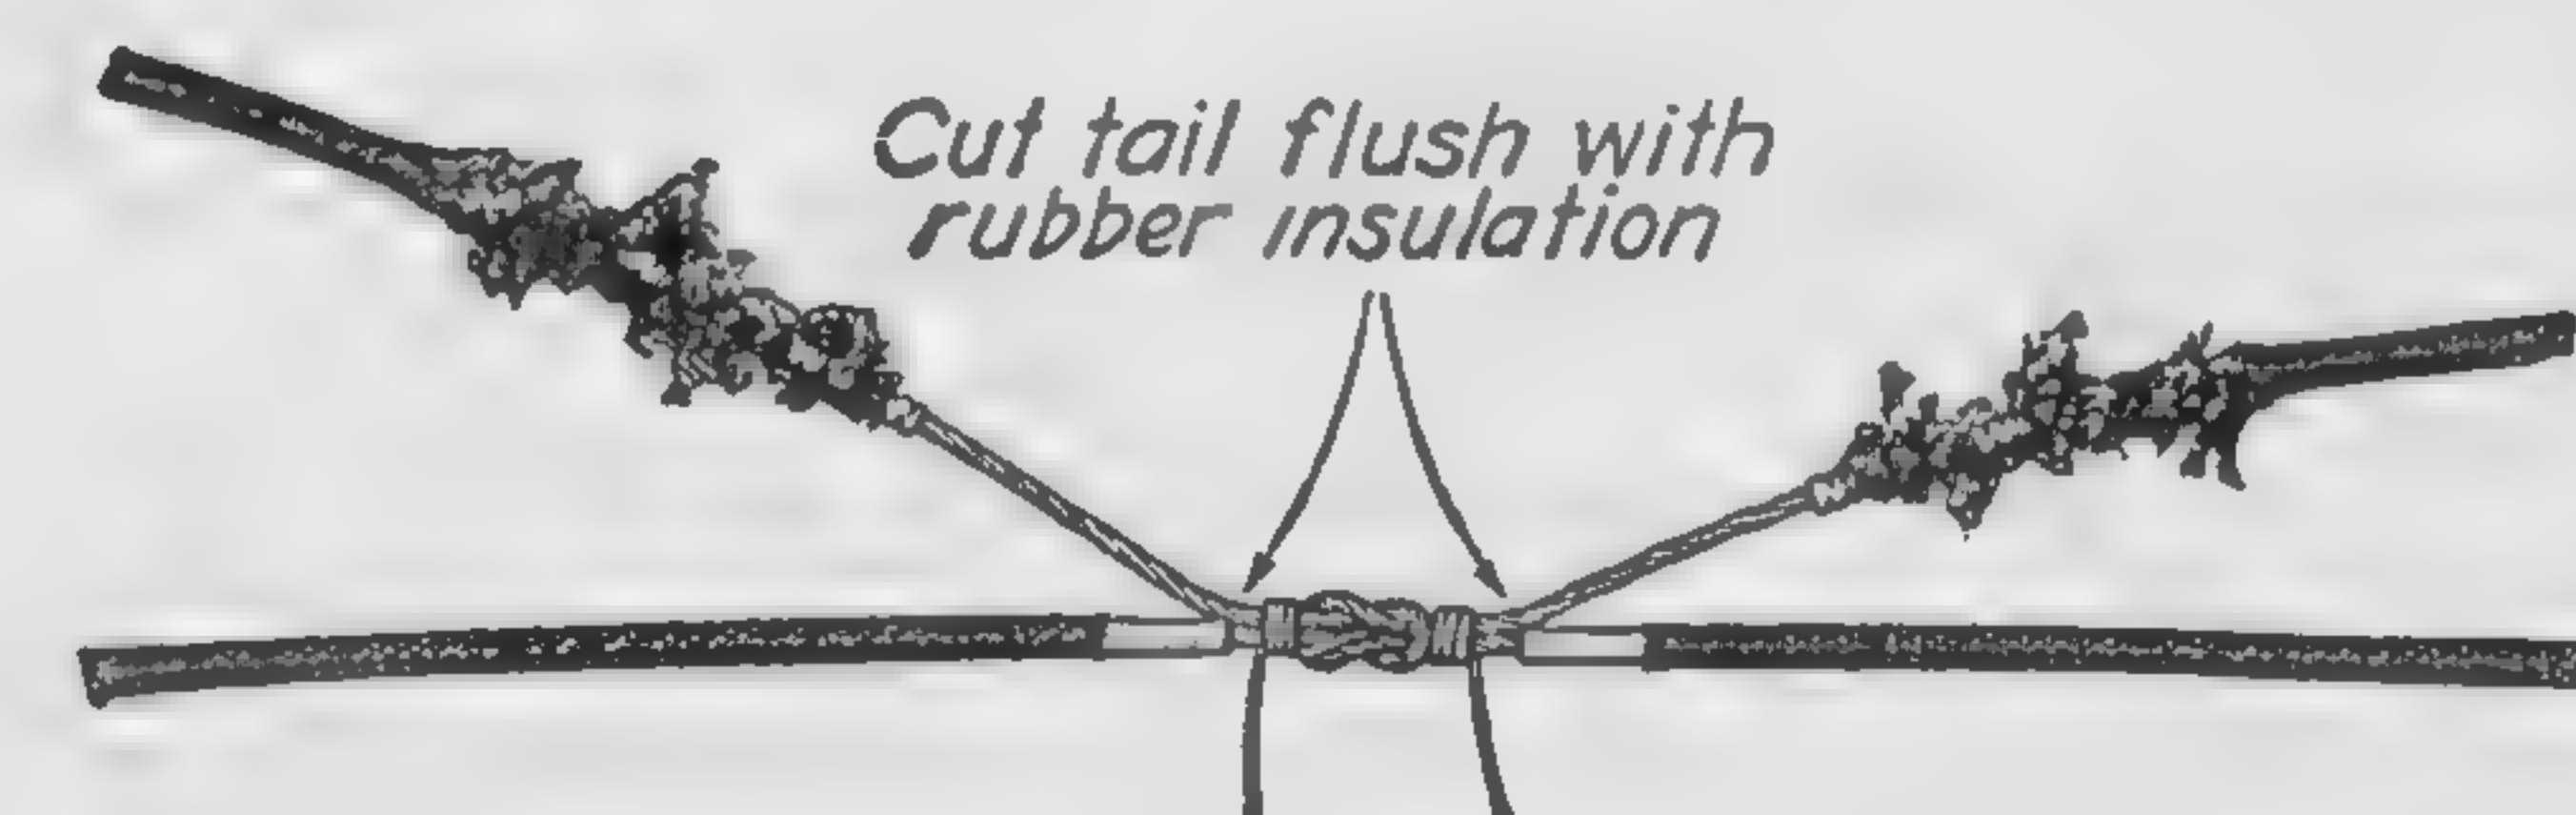

Fig. 8. Wrapping Seizing Wire
ping to the left and half for wrapping to the right. Two or three close turns are taken with the seizing wire, both to the left and to the right of the square knot, Fig. 8. This is to bind the ends of the knot before cutting off the excess ends of the conductors. Now the excess ends of the conductors are cut off flush with the
(4) Tie Y₁ to X₁ with a square knot. To tie this knot, make a loop with the left hand in the bared portion of X₁; with the right hand, pass the end of Y₁ up through the loop, over the right side of the loop, under the neck of the loop over the left side of the loop, and down through the loop; draw the knot tight. To avoid making a thief knot, be sure that the two conductors on which the strain is to be placed are on the same side of the loop, otherwise the knot will not hold.
(5) Twist Y₂ around X₁ and X₂, and tie Y₂ to X₂, similarly.
(6) Cut off the portion of X to be discarded and complete the splice as indicated and described for Figs. 8 to 11.